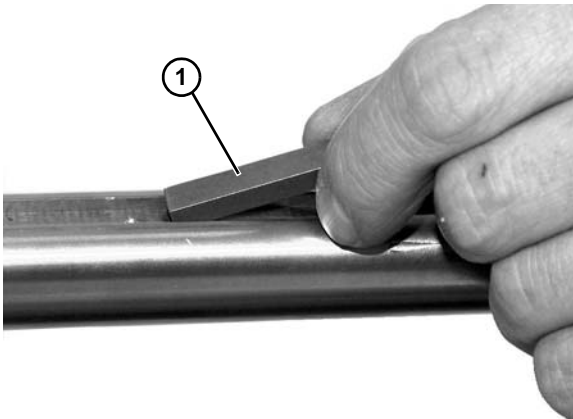

Figure 55
3. Remove output shaft key (Figure 55, item 1).